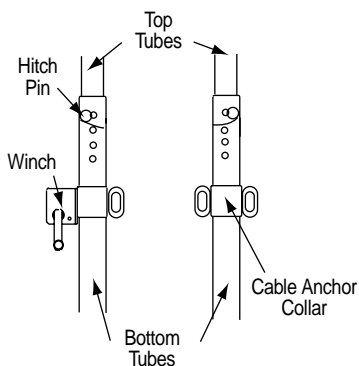

Figure 1
- ① Overtightening top cable can damage equipment and possibly cause injury.
- ② The center of the net will sag slightly. This is natural. Do not try to compensate by over-tightening top cable. (See "Net Height" information below.)
- ③ Make sure proper parts and accessories have been shipped. Do not attempt to install any accessories that are not recommended for your Power Volleyball System.
- ④ Do not attempt to operate the winch by using an electric drill; hand crank only.
- ① Slide winch assembly onto one 3 1/2" O.D. bottom tube. Locate approximately 23" from end with holes, and tighten set screws with allen wrench (see Fig. 1).
- ② Slide cable anchor collar onto the other 3 1/2" O.D. bottom tube. Locate approximately 23" from end with holes, and tighten set screws with allen wrench (see Fig. 1).